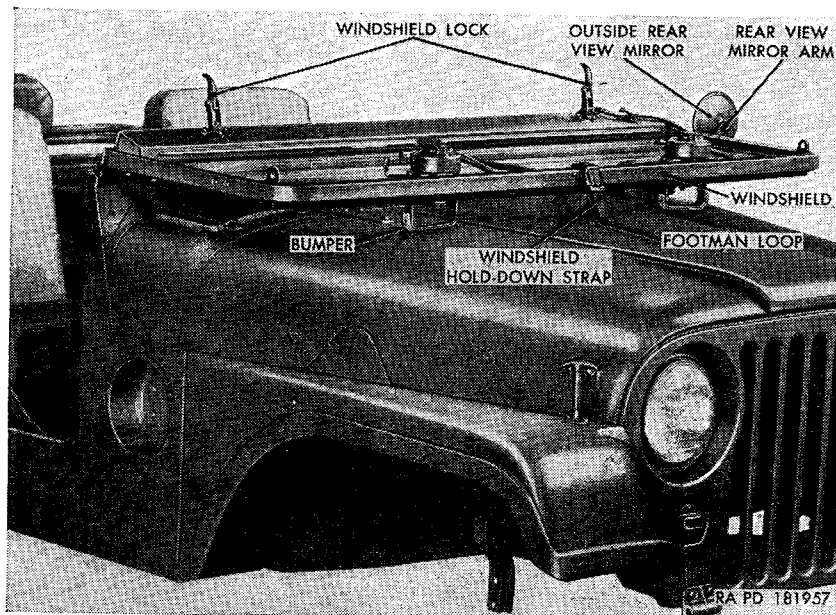

Figure 175. Windshield assembly—lowered position.
bumpers rest on the hood. Secure windshield in lowered position by inserting the end of the windshield holddown strap with buckle assembly (secured on inner side of windshield frame) through the footman loop (fig. 175) on the hood and securing the strap in its buckle.
*b. Raising.* Unbuckle the windshield holddown strap (fig. 175) and withdraw strap from the footman loop on hood. Raise windshield to its upright position. Secure the windshield in raised position by clamping the windshield lock, at each side of the windshield, on the lock catch (fig. 174) on the instrument panel.